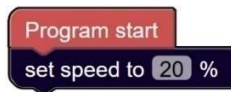

Figure 2
1. You should include the Ozobot Editor block shown in Figure 2 at the beginning of your program, perhaps right after the *Program start* block or in a function where you initialize a number of things required by your solution to the challenge. Why? When ORA is moving at a slower speed, say 20% or less, you have more time to prevent an impending collision with the table or squares that have already been placed by ORA. Of course, this also allows a person more time to move out of the way of ORA's moving arm! This is particularly important throughout the development process while creating your program, when you are more apt to make errors in coordinate values in *move to coordinates* blocks.